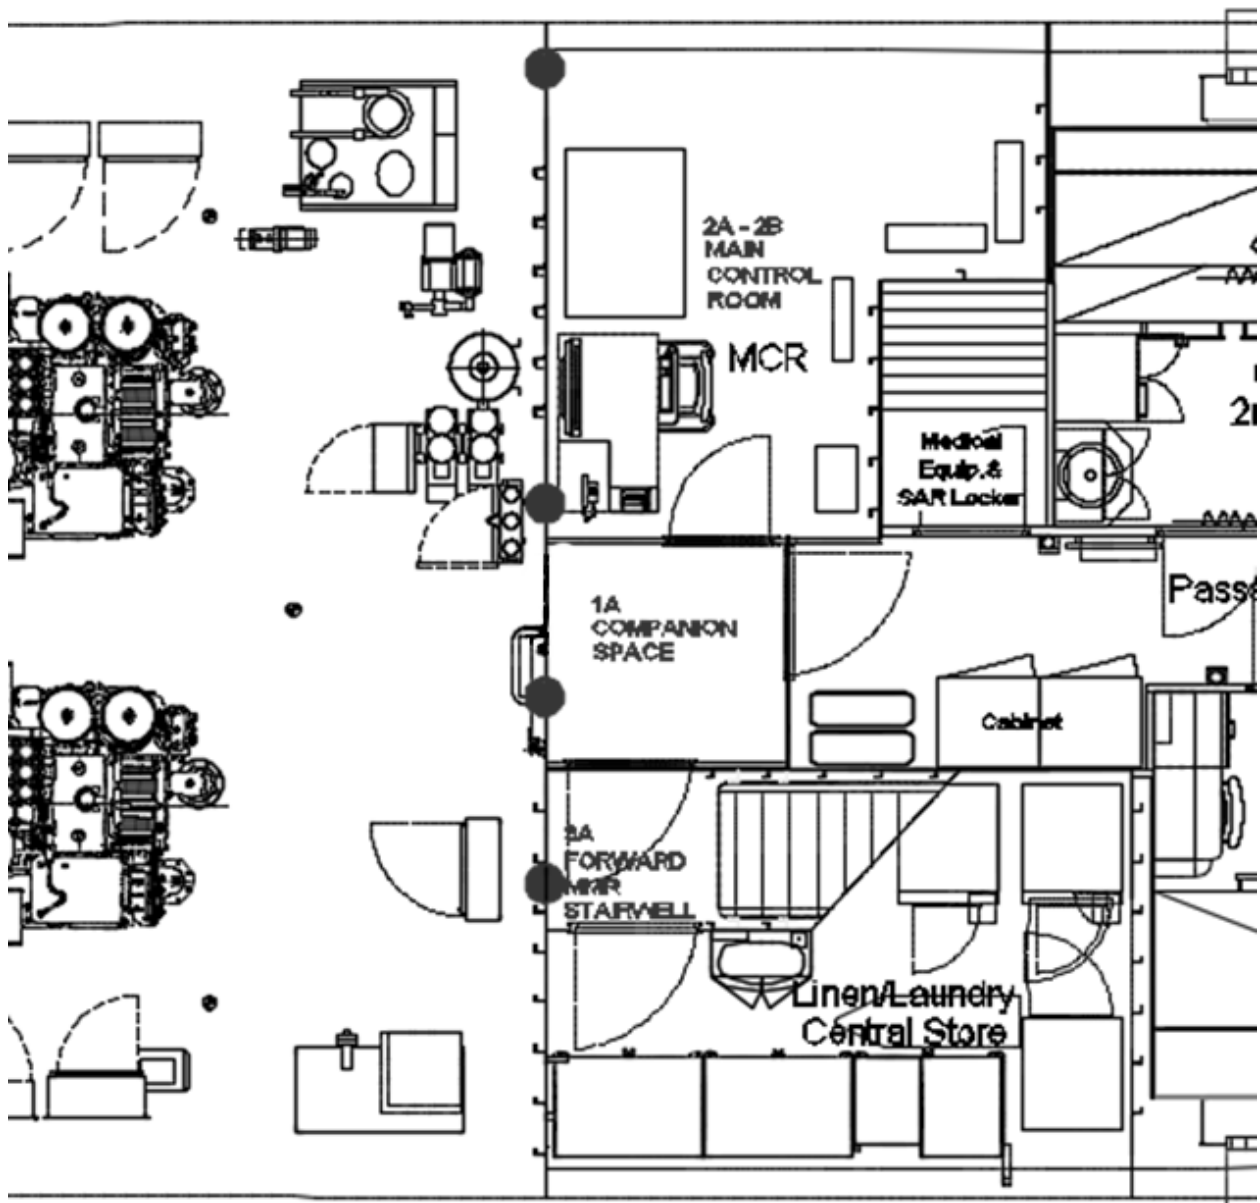

FIGURE L-01-1
2. There are a total of 4 wire transit penetrations covered in this specification that shall be addressed, all of which can be found below the Main Deck, Figure L-01-1 and L-01-2;